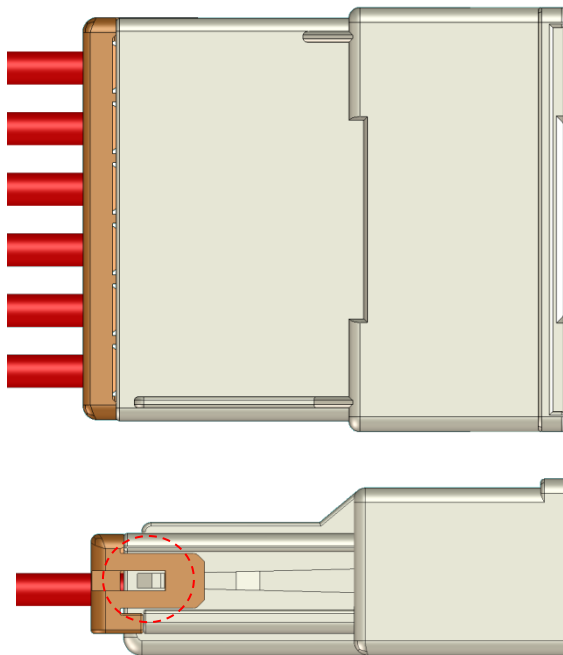
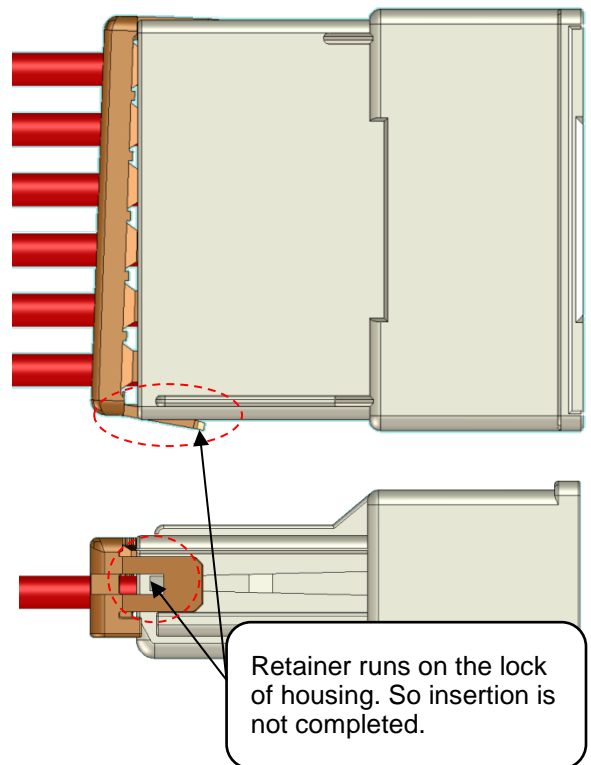
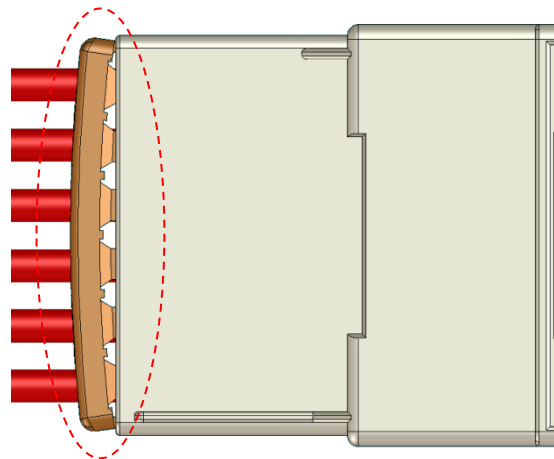

Fig.6-8 The case of correct insertion
Fig.6-9 The case of running on the lock.
Fig.6-10 The case of warping the retainer.
- ④ After insert retainer, please confirm two things on your eyes.(Fig.6-8) One is the lock of retainer doesn't run on the lock of housing.(Fig.6-9) Second is retainer doesn't warp.(Fig.6-10)